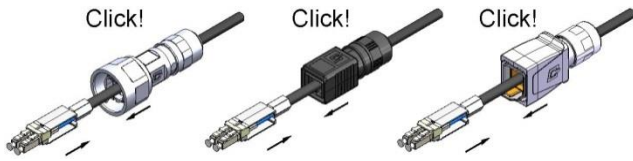

Figure 26
7.2. Mount the connector assembly into the connector housing by pushing up the housing. Thus you will hear a noticeable click (figure 26)